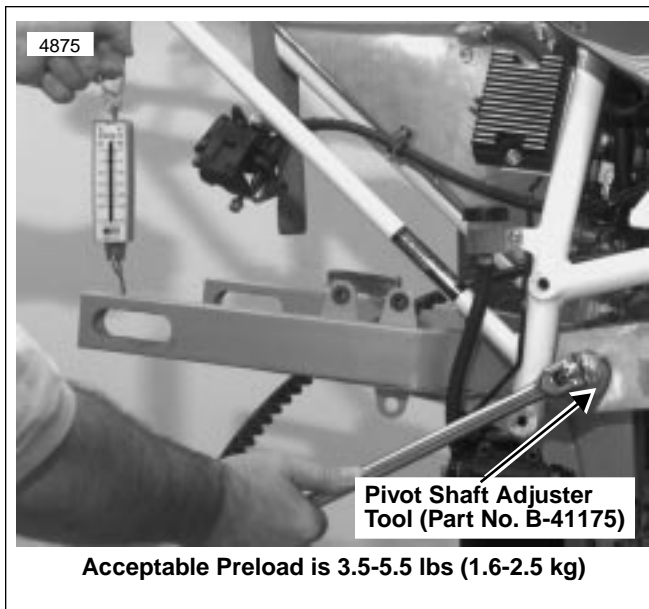

Figure 7. Adjusting Swingarm Preload (Typical)
- f. See Figure 7. Using a scale and PIVOT SHAFT ADJUSTER TOOL (Part No. B-41175), set swingarm preload. See appropriate service manual, Section 2 for procedure. Correct preload is 3.5-5.5 lbs (1.6-2.5 kg).